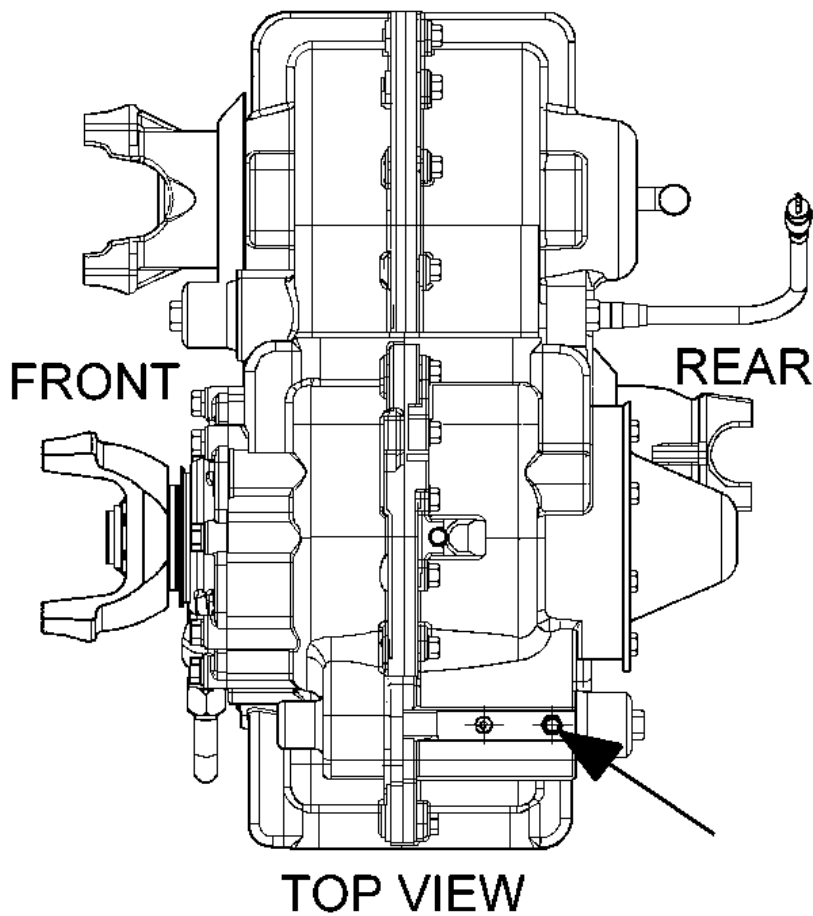

Figure 11 Top View of Transfer Case with Neutral Position Air Inlet Port Shown at Arrow
11. Locate the neutral position air inlet port shown in Figure 11 and remove the pipe plug.